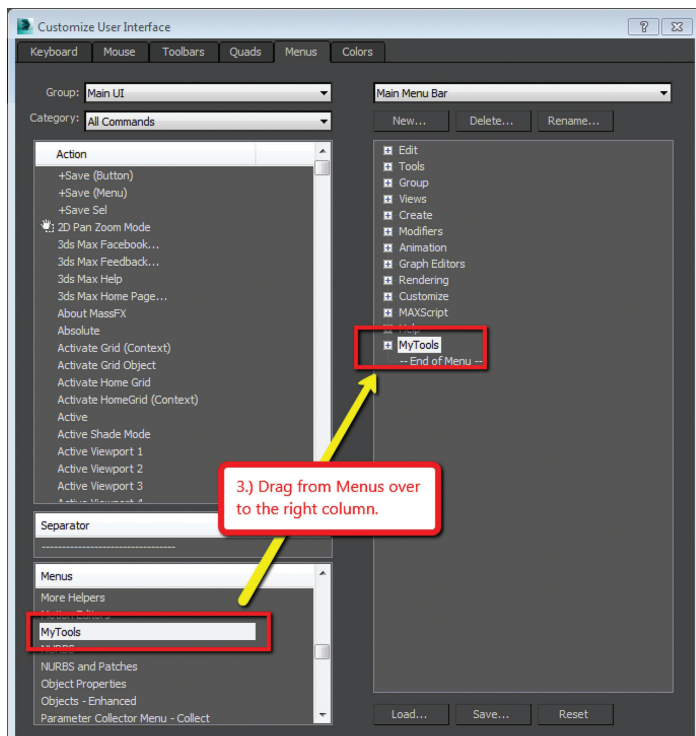

Figure 12: Adding the new menu to the UI
3) Drag your newly created menu category over to the column on the right. This will add your new drop-down menu to the interface immediately and you can begin populating it with menu items (see Figure 12).